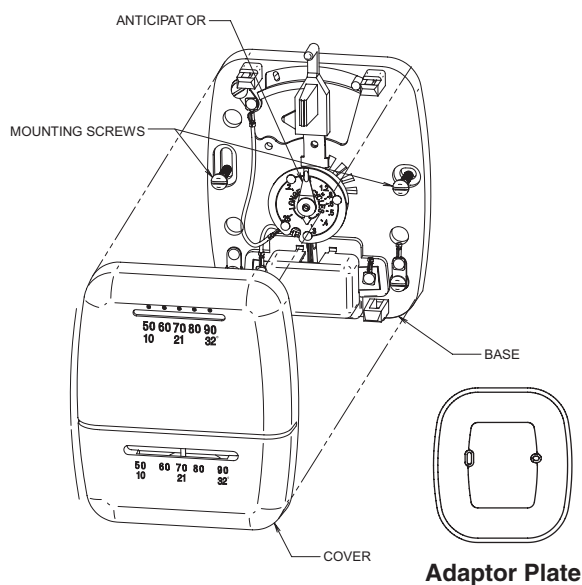

Figure 1.
A. Mount base and adaptor plate: Mount base to wall using screws provided (see Fig. 1).